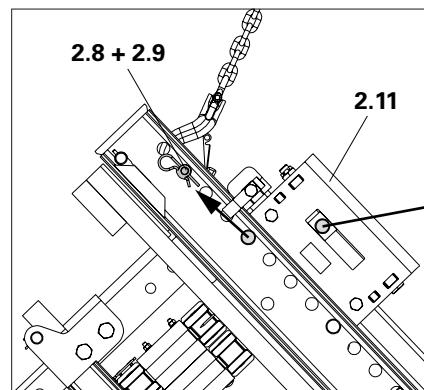

Fig. B1.18a
1. Remove 2x fitting pins \varnothing 26 (**2.8**) and cotter pins 5/1 (**2.9**) from the marked positions on the Adjusting Unit SCS (**2.11**). (Fig. B1.18a)
2. Insert fitting pins \varnothing 26 (**2.8**) into the holes on the crossbeam and secure with cotter pins 5/1 (**2.9**). (Fig. B1.18a + B1.18b)